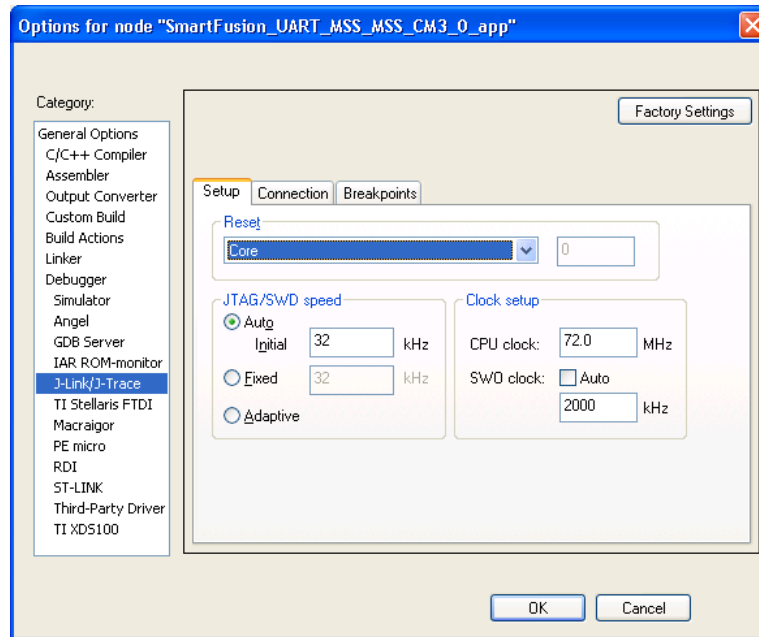

Figure 27 · J-Link/J-Trace Setup
12. Click **J-Link/J-Trace** under **Category**. On the **Setup** tab, select **Core** from the **Reset** drop-down list, as shown in Figure 27 . .